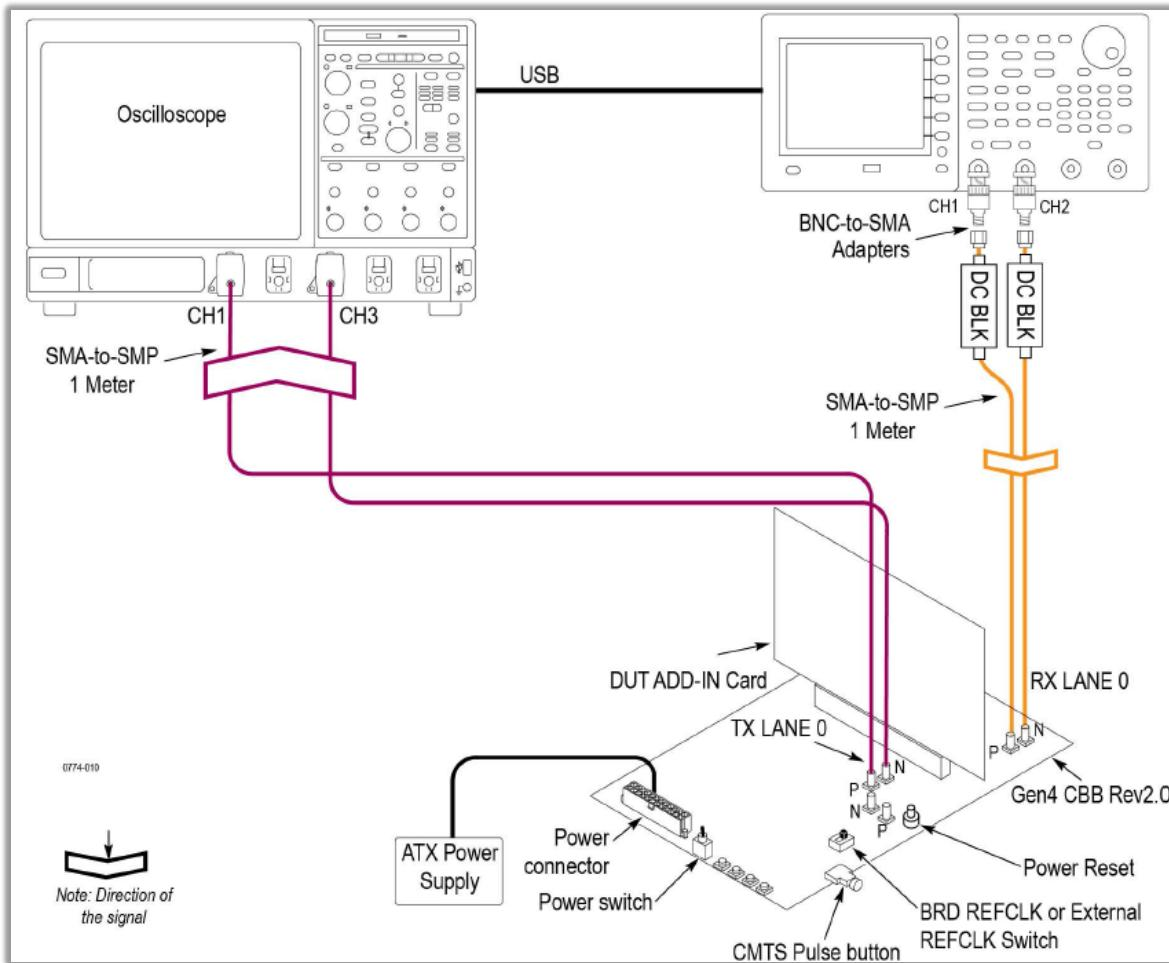

Figure 6 Tx Preset / Pulse Width Jitter Test for Add-In-Card – DUT Toggle Automation
11. Make the connection as per section#3.6 \(Figure 6 Tx Preset / Pulse Width Jitter Test for Add-In-Card – DUT Toggle Automation\) and verify that it as per the connection diagram that is prompted by application up during the run, Power ON the DUT and click OK to continue.